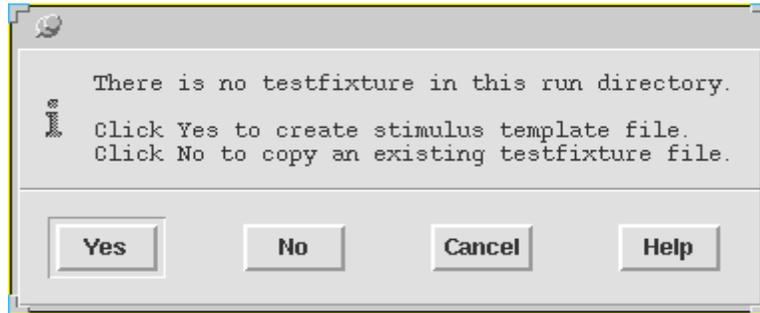

Fig 6: Dialog Box
- b. A dialog box appears as shown in Fig 6. Click **No** in the dialog box.